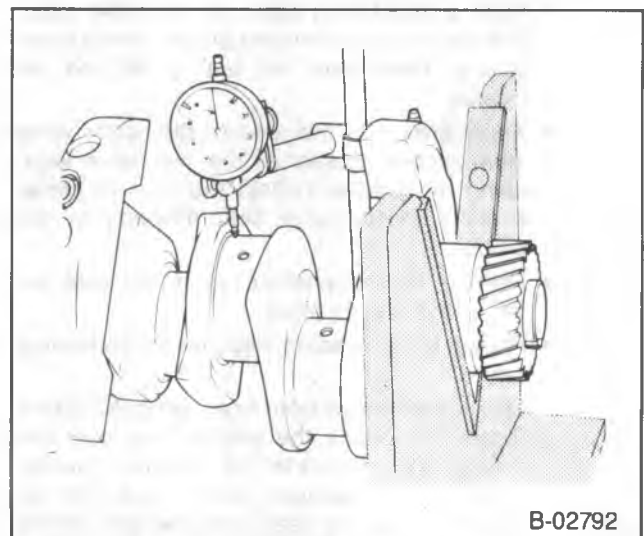

Figure 43—Checking Crankshaft Runout
- Crankshaft runout (figure 43).